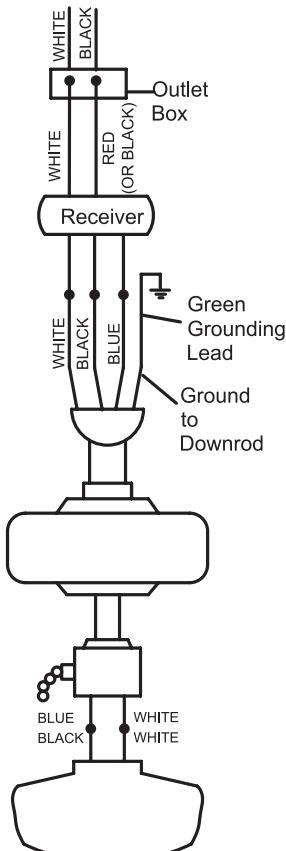

Figure 12
1. Connect the ground conductor of the 120v supply (this may be a bare wire or a wire with green colored insulation) to the green ground lead(s) of the fan (Figure 12). Connect the fan motor white wire to the supply white (neutral) wire using a wire nut (Figure 12).
2. Connect the fan motor white wire to the receiver white wire using a wire nut (Figure 12).
3. Connect the fan motor black wire to the receiver black wire using a wire nut (Figure 12).